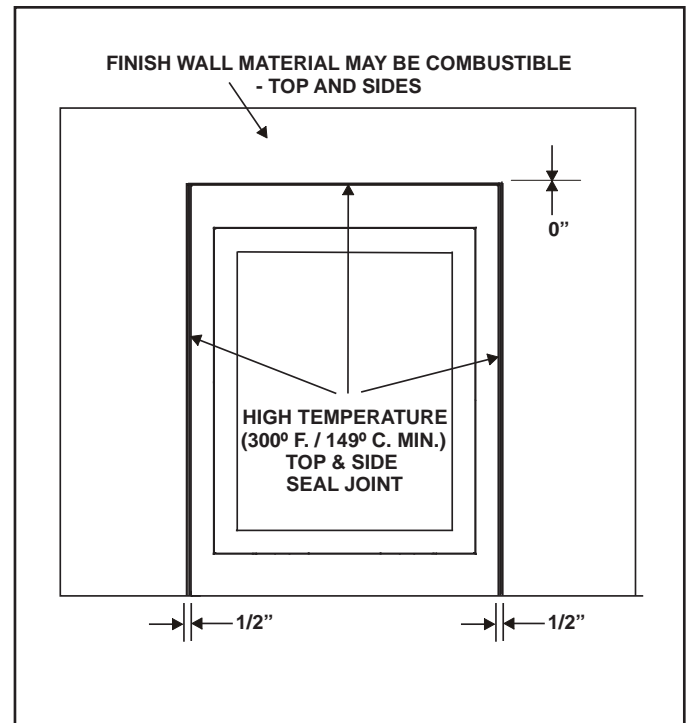

Figure 13.4 Sealant Material
- Seal joints between the finished wall and appliance top and sides using a 300 °F minimum sealant. Refer to Figure 13.4.